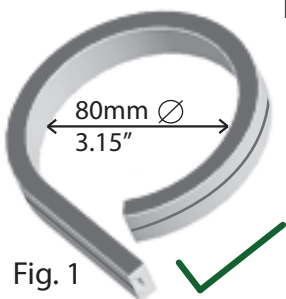

Fig. 1
- 1) Do not bend past a diameter of 80mm/3.15" to avoid damage to internal components of the product (Fig.1).